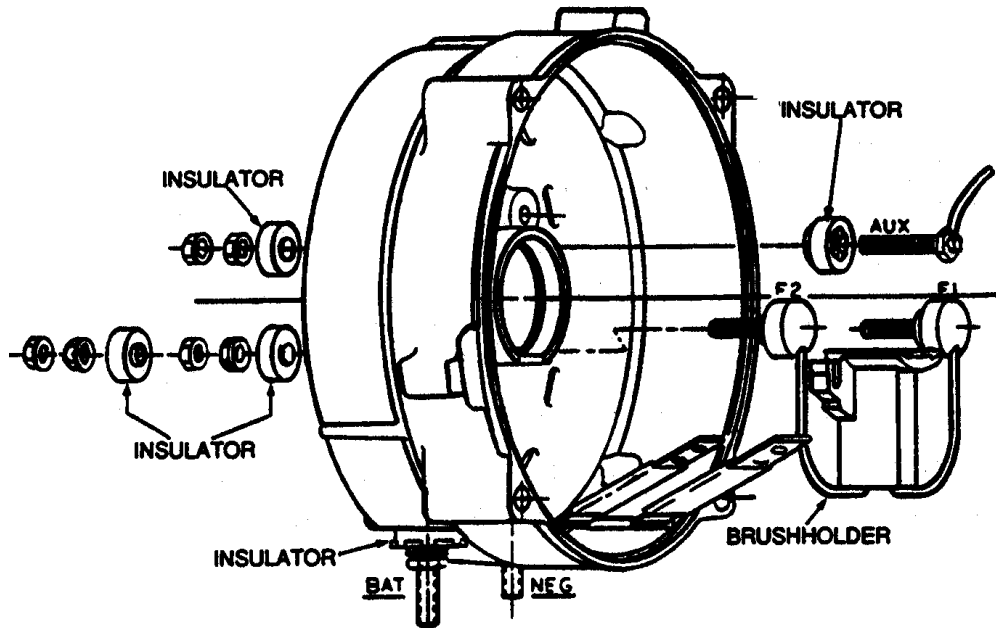

FIGURE 21
1. Remove nuts (35) and insulators (28,32) from the "AUX" terminal. (Figure 21.)
2. Remove capacitor (16) only if it fails test on page 18.
3. Remove screws (15) attaching the positive and negative straps (25) to the rectifier plates.
4. Remove the four screws (12) that secure the rectifier plates (39) to the housing (30).
5. Lift the stator (11) and rectifier assembly (39) from the housing (30). Take care not to damage the leads connecting the stator to the rectifier and "AUX" terminal.
6. Remove nuts (35) and insulators (33) from the two field terminals.
7. Remove the two screws (27) that secure the brush holder to the housing and remove the brush holder (29) assembly .
8. Check terminal straps (25). Remove and replace if needed.
2. Install the pre-assembled brush holder (29) assembly with the brush retaining pin* protruding through the small hole in the casting. Apply "Loctite" #242 to #8 brush-holder attaching screws (27) and torque to 15-20 in. lbs. Do not over torque screws or cracked brush-holder may result.
3. Install the field terminal studs (29) with the insulator washers (33) outside the housing, with the brush leads routed as shown. (See Figure 21 & 22.)